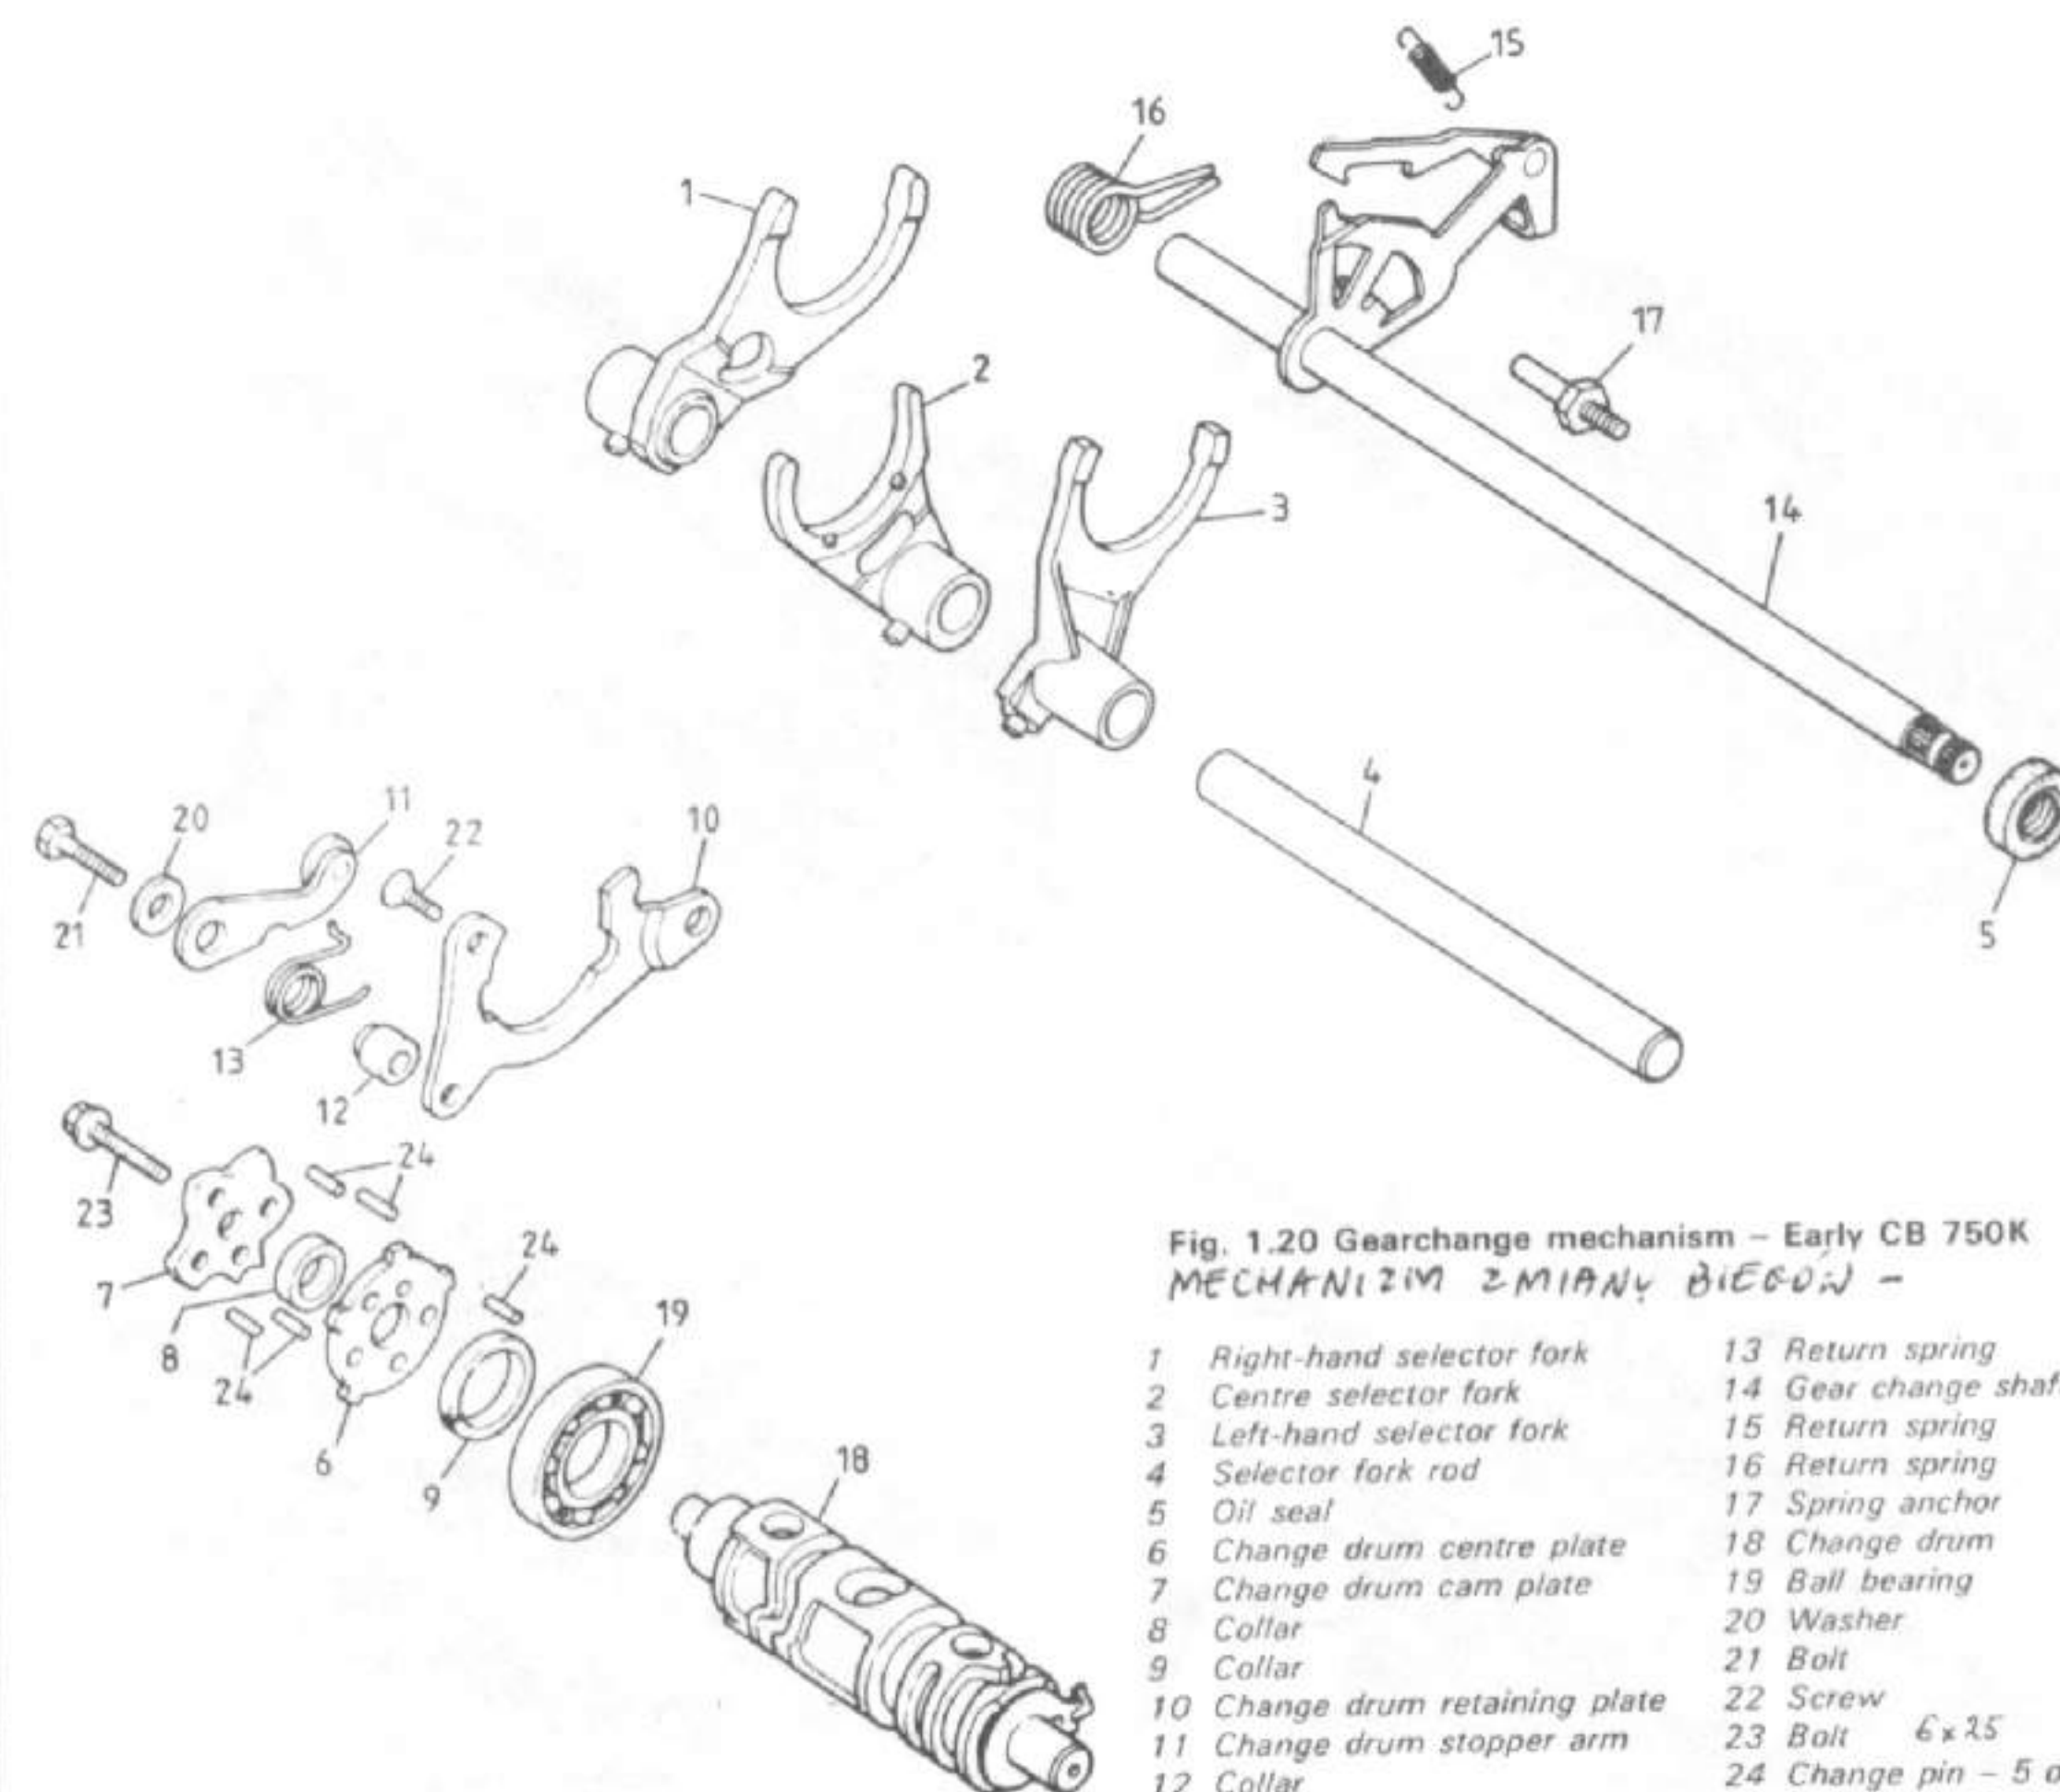

Fig. 1.20 Gearchange mechanism - Early CB 750K
- 1 Fit the neutral switch contact to the end of the selector drum, then slide it into position via the larger bearing boss. Fit the selector fork support shaft, placing each of the three forks in position as the shaft is slid into place. Note that the forks differ in shape, and should be arranged as shown in Fig. 1.20.